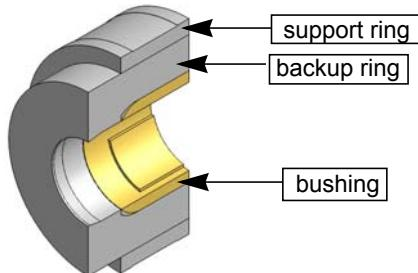

Figure 6-14
6. The **backup-support ring assembly** (Figure 6-14) is machined together as one assembly. The outer **support ring** is pressed onto the inner **backup ring**. These parts should not be separated. Remove the **short seal ring** from all three backup ring assemblies.